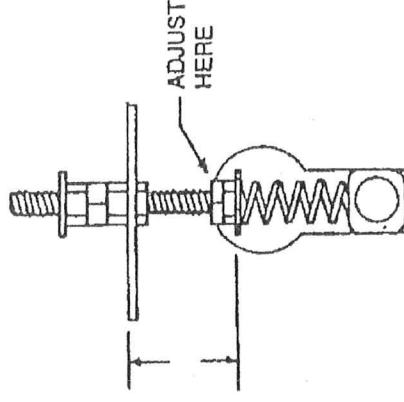

Fig. A-16
3. Loosen jam nut, by holding the bottom nut with one wrench and loosen the jam nut with the other wrench (see fig. A-16).
4. Reduce the tension on the feed roller tension spring by raising the jam nuts on the threaded rods (see fig. A-16).